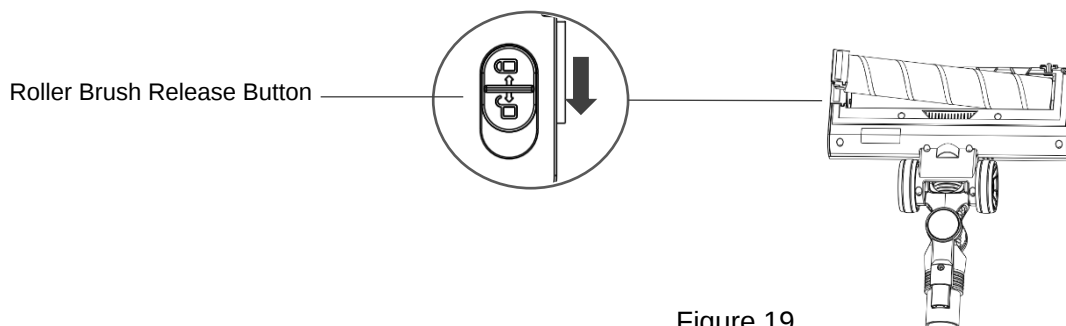

Figure 19
2. Press the roller brush release button on the side of the floor brush in the unlocking direction, and the roller brush will automatically bounce (Figure 19).